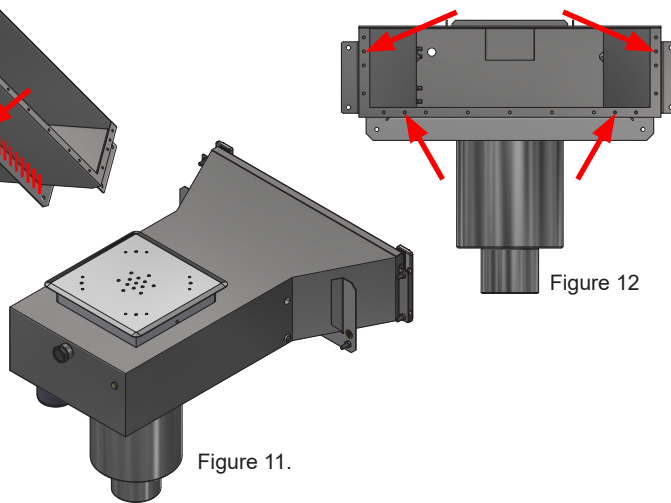

Figure 11.
5. Before pouring concrete; mask the skimmer's exposed flange and openings to prevent unsightly concrete splashes. The openings in the back edge of the skimmer for level monitor, overflow and filling can be sealed using the enclosed plugs, see Figure 11.